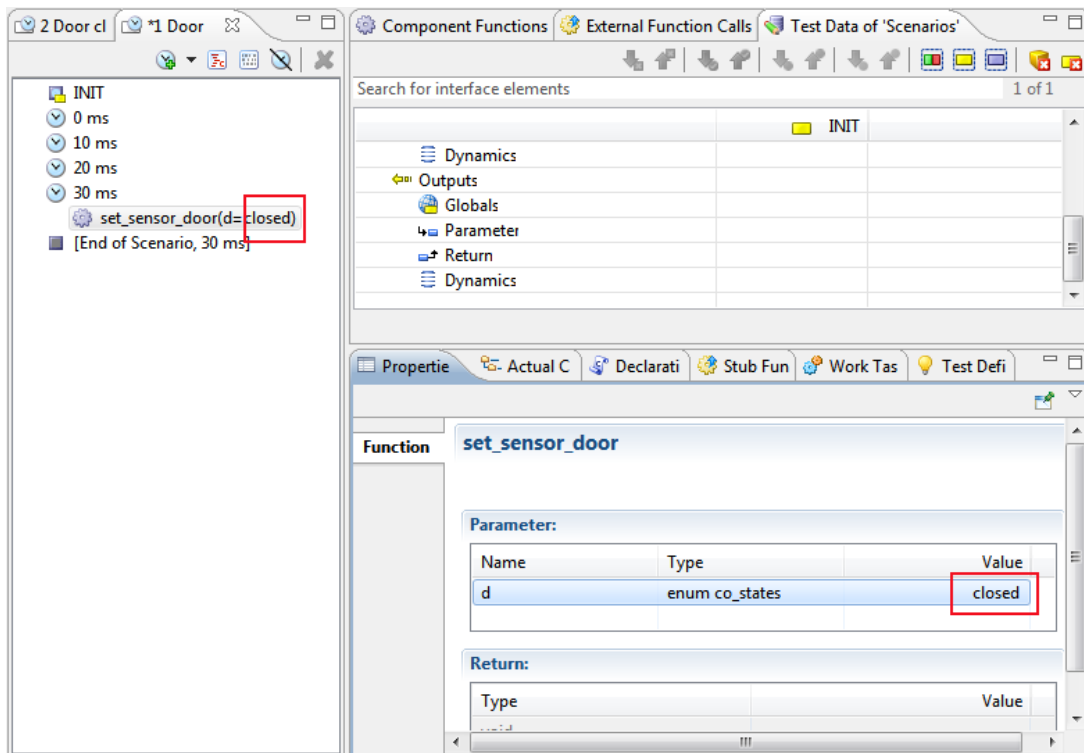

Figure 5.86: The parameter of set_sensor_door() is set
- The value will be displayed in the parameter of the time step function (see figure 5.86).